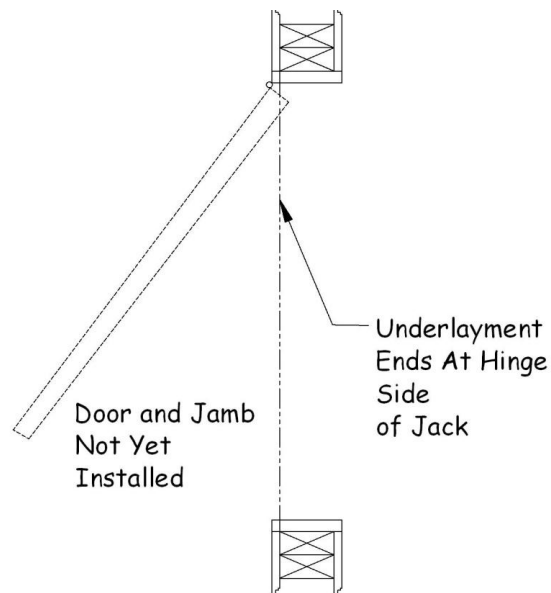

Figure 16-1. Subfloor in Interior Door Opening.
5. Seams between hard flooring and carpeting should be midway under the bottom of a door when closed. Doors when closed are not located in the middle of the doorjamb. Use the edges of the jack stud as reference. For doors swinging inward, use the inside edge of the jack stud for the location of the end of the subfloor. For doors swinging outward, use the outside edge of the jack stud. (See Figure 16-1.)